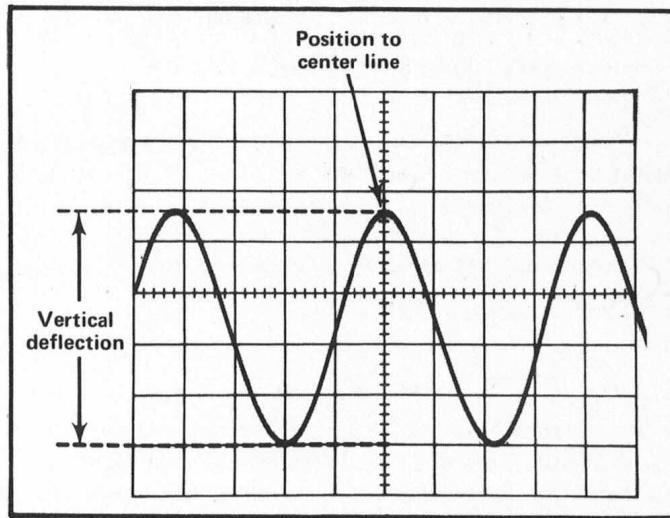

Fig. 2. Measuring peak-to-peak voltage of a waveform.
6. Turn the vertical POSITION control so the lower portion of the waveform coincides with one of the graticule lines below the center horizontal line, and the top of the waveform is on the viewing area. Move the display with the horizontal POSITION control, so one of the upper peaks lies near the center vertical line (see Fig. 2).
Example. Assume a peak-to-peak vertical deflection of 4.6 divisions (see Fig. 2) with a VOLTS/DIV switch setting of .5.